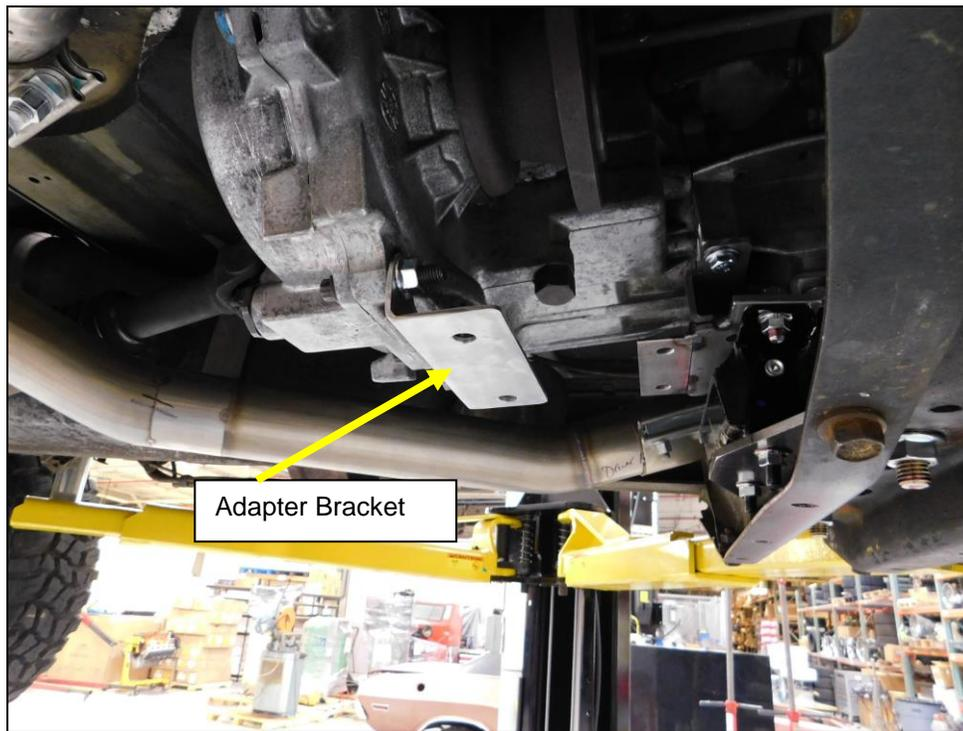

Figure 13
10. Install the transfer case support bracket adapter to the bottom studs on the transfer case and install the M10 flange nuts and tighten (**Figure 13**).